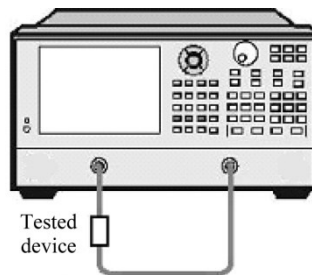

Figure 8.21 Linear phase deviation measurement connection
- 3) Connect the device under test, as shown in Figure 8.21.